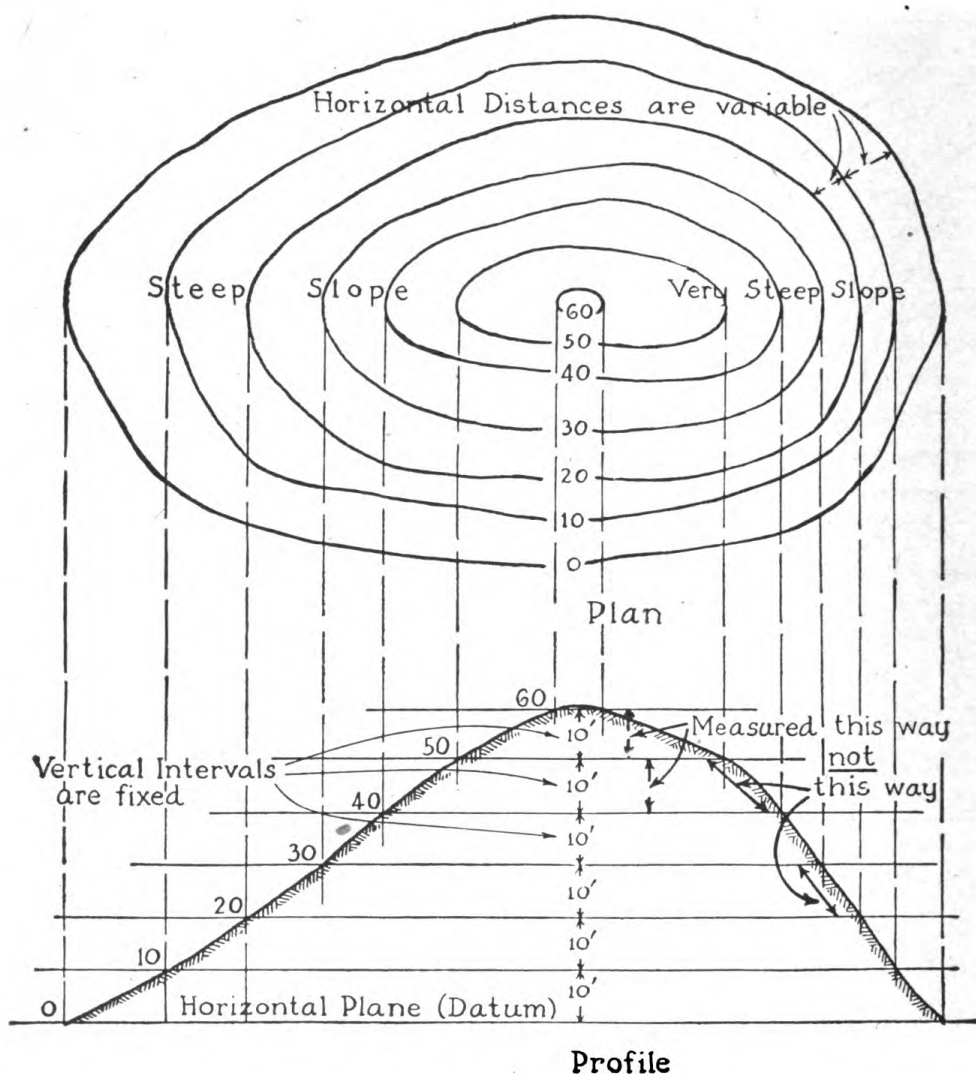

FIGURE 141.—Plan and profile of hill. (Contours are lines that would be left on the ground by successive horizontal slices, 10 feet thick.)
Q. Give a simple method of making a profile. **A.** To make a profile of the hill shown in figure 141, along the line of the words "Steep slope, Very steep slope"; draw a number of parallel lines at uniform inter-